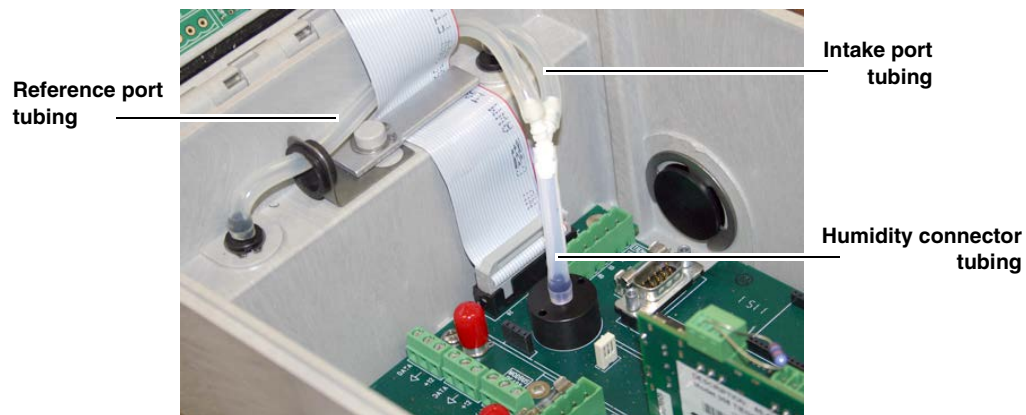

Figure 5-14 Tubing configuration for optimal drying power
4. Connect the 'Y' connector to the humidity connector (Figure 5-14).